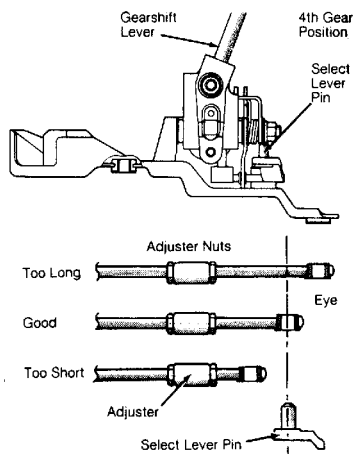

Fig. 2: Adjusting Select Cable (Typical)
- 2) Loosen selector cable adjuster nuts (inside of vehicle). See Fig. 2. With select lever in Neutral, adjust select cable end until eye fits easily over select lever pin. Tighten adjuster nuts.